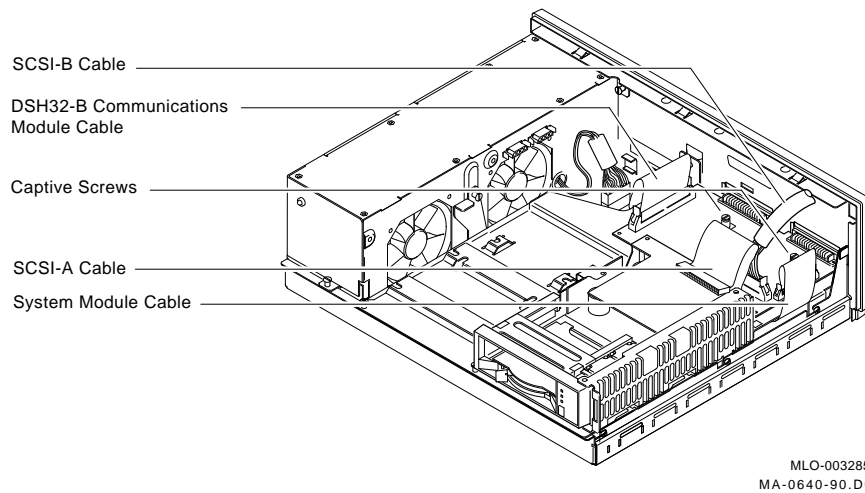

Figure 2-5 System and DSH32-B Module Cable
2. Disconnect the system module cable from the distribution module (Figure 2-5).
3. Disconnect the DSH32-B module cable (if applicable) from the distribution module (Figure 2-5).